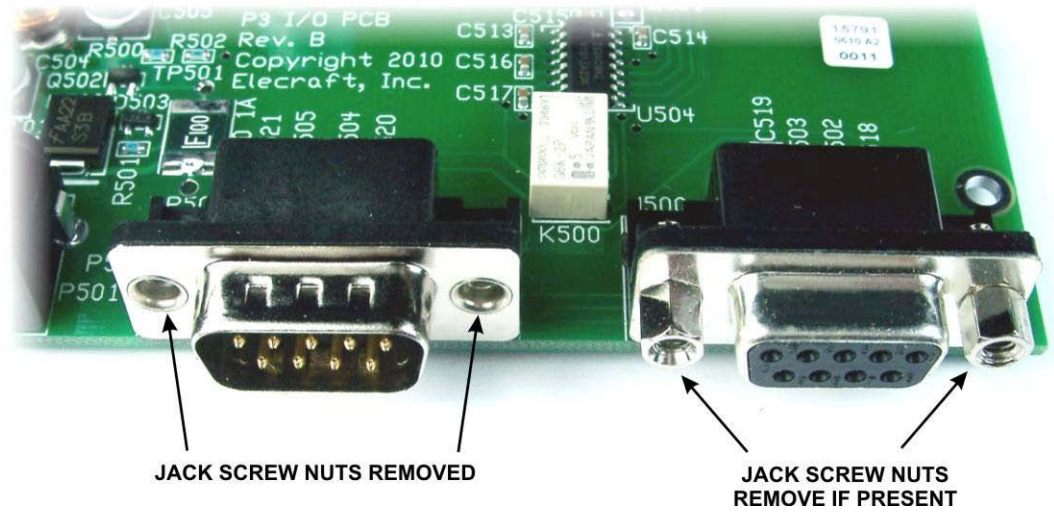
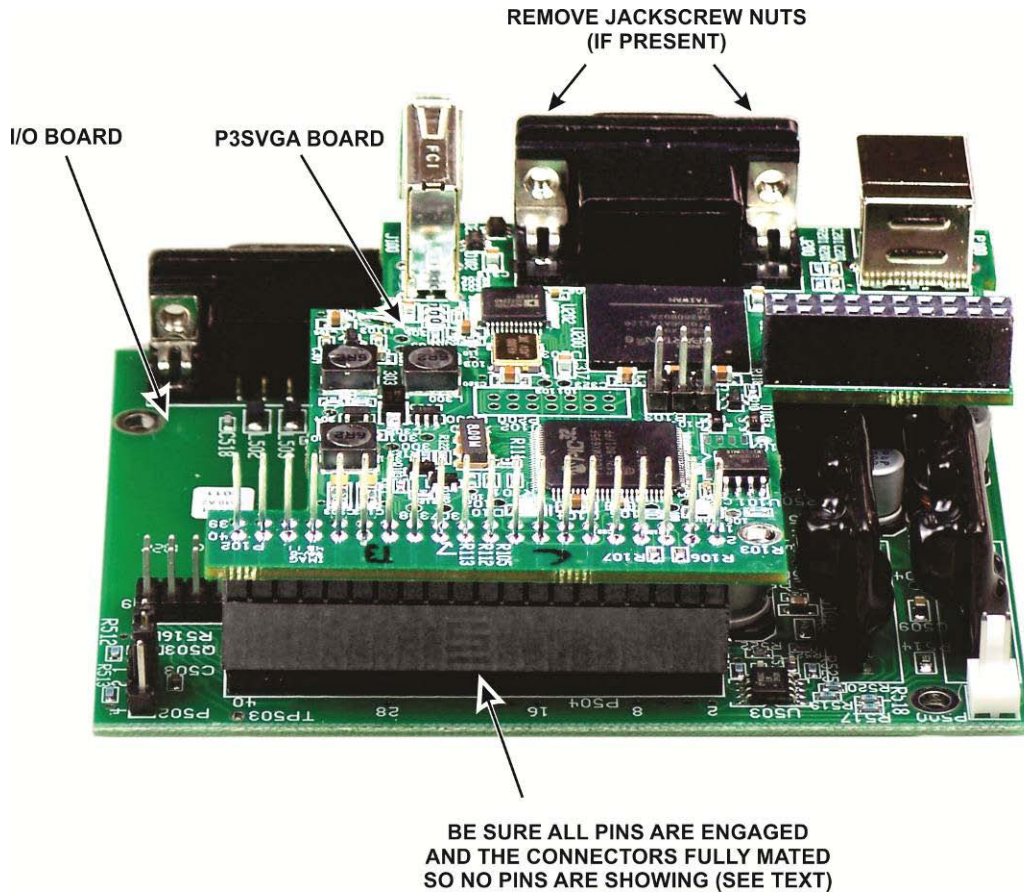

Figure 14. Preparing the I/O Board for Installation.
Figure 15. Mating the P3SVGA and I/O Boards.
Remove the I/O printed circuit assembly from its anti-static packaging and check to see if either of the two multi-pin connectors have jack screw nuts installed (see Figure 14). These are the nuts the jack screws on the connector shells screw into to secure them. If either connector has jack screw nuts installed, remove them.
□ If you have the P3SVGA board to install at this time, check the connector and remove the jackscrew nuts if present, just as you did for the I/O board connectors (Figure 14). Mount the P3SVGA board on the I/O board as shown in Figure 15. Be sure the connectors are aligned so that all pins engage. To avoid over-stressing the boards, place the I/O board on a firm surface or support it with your fingers. You may need to rock the P3SVGA board slightly while pressing down to “walk” the pins into the connector/